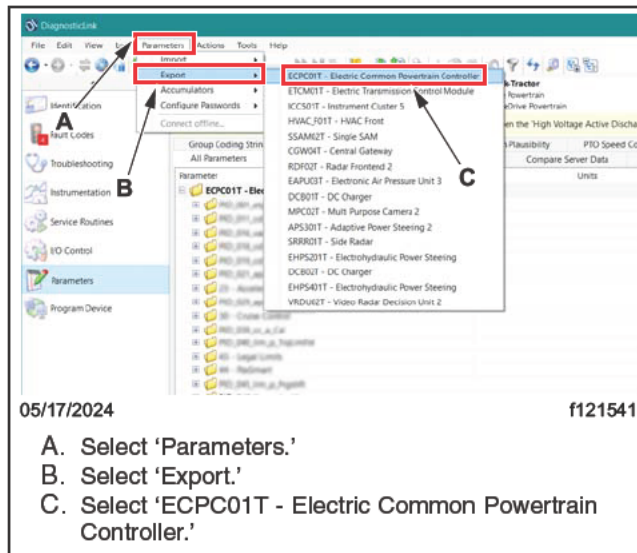

Fig. 22, Exporting the ECPC01T Parameters
6. Export the ECPC01T parameters to a folder on the local drive where it can be retrieved if necessary. See Fig. 22.